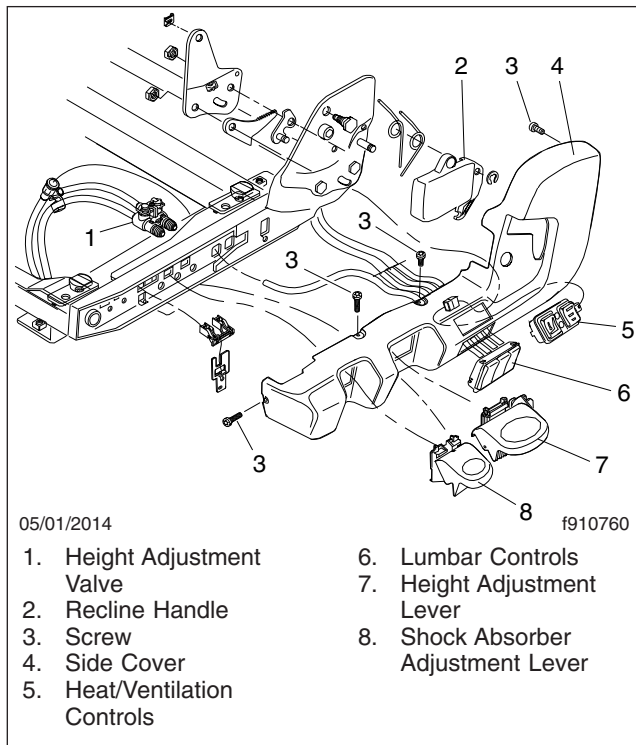

Fig. 1, Side Cover Installation (LH shown)
4. Remove the screws at the front and top of the side cover; see Fig. 1.